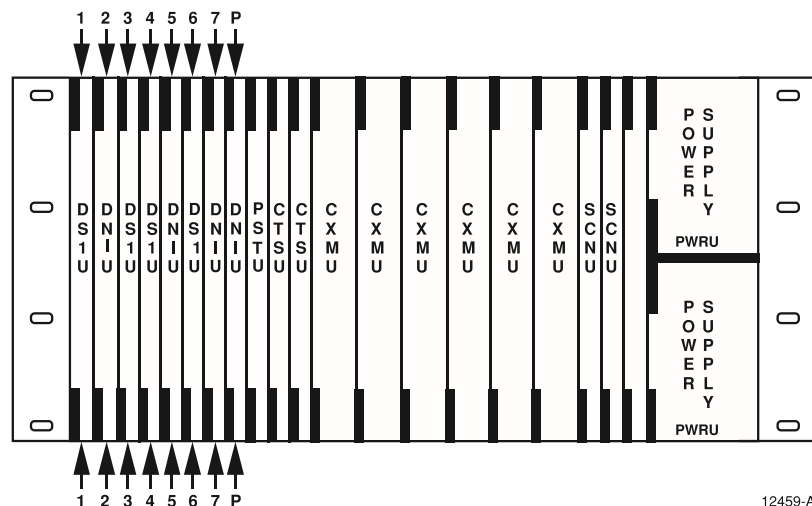

Figure 5-12. DS1U/DNIU Mounting Slot Locations
5. Insert the DS1U/DNIU into the appropriate mounting slot in the HDT mounting shelf as shown in Figure 5-12.